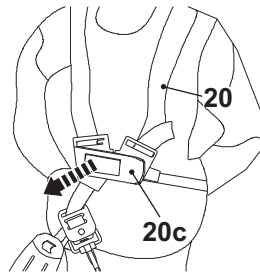

Fig. 17
- In case of emergency hold the upper pole (11) with the right hand, and use the left hand to push open the release lever (20c). The harness (20) will be released automatically from the body because of the weight of the product (Fig. 17).